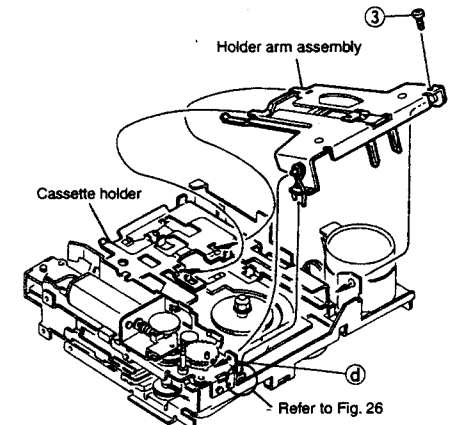

Fig. 25
5. While attaching the holder arm assembly to the cassette holder, insert the shaft of the holder arm assembly into the interlocking section ④ of the sub chassis assembly as shown in Fig. 25.
7. After the holder arm assembly is installed, secure it with the screw ③. (Fig. 25)